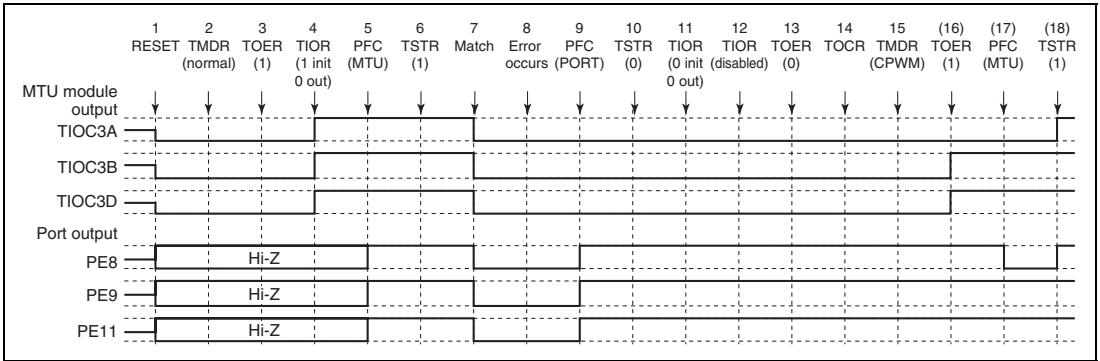

Figure 8.88 Error Occurrence in Normal Mode, Recovery in Complementary PWM Mode
(5) Operation when Error Occurs during Normal Mode Operation, and Operation is Restarted in Complementary PWM Mode: Figure 8.88 shows an explanatory diagram of the case where an error occurs in normal mode and operation is restarted in complementary PWM mode after re-setting.
1 to 13 are the same as in figure 8.88.